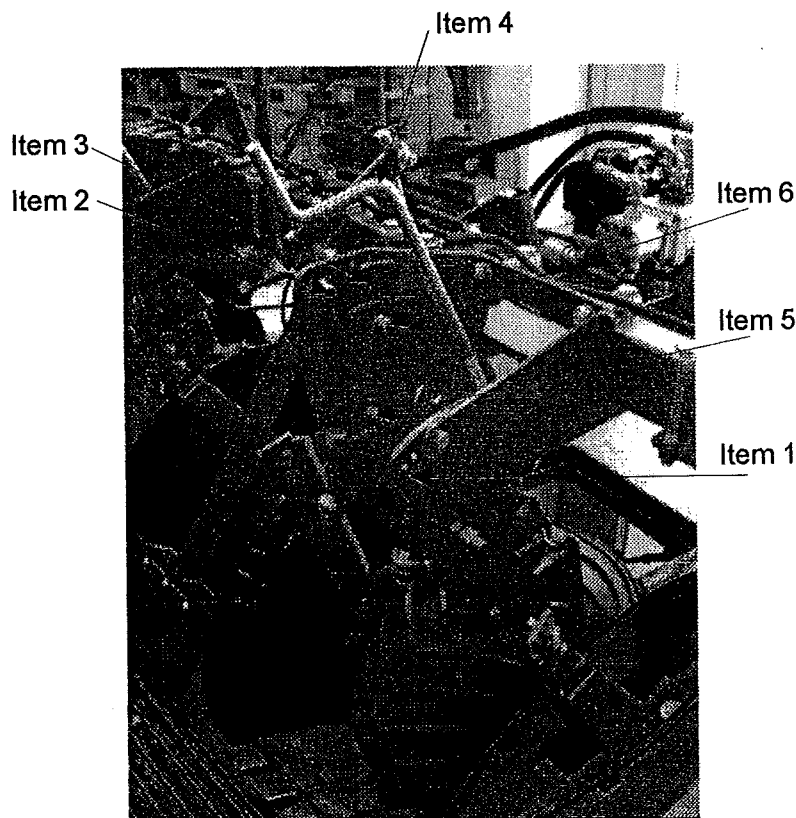

Fig 6.11
The depth wheels have a torsion spring mounted in their pivot to provide downward pressure. This spring can be adjusted to increase or decrease the amount of pressure on the depth wheel. The spring retention bracket is mounted onto the depth wheel frame and has a number of positions. By removing the mounting bolts in the spring retention bracket, and locating the bracket in a forward, or rearward position, spring pressure can be altered (fig 6.11 item 1).
The share depth is automatically controlled by proximity sensors situated adjacent to each depth wheel (Fig 6.11 item 2), these are activated by trigger plates attached to the depth wheel mounting frames (Fig 6.11 item 3). Each depth wheel is adjusted and controlled independently of the other.
The depth is adjusted by two means, a fine adjustment by turning the handle mounted on the frame of the depth wheel (Fig 6.11 item 4), and a coarse adjustment which is achieved by moving the trigger plate (Fig 6.11 item 1).
Turning the handle clockwise decreases the digging depth, whilst turning the handle anti-clockwise increases the digging depth (fig 6.11 item 4).
To adjust the trigger plate, slacken the trigger plate pivot screw (Fig 6.11 item 5), and remove the trigger plate retaining screw (Fig 6.11 item 6); move the trigger plate to the required new setting and refit the retaining screw. Tighten both screws. Moving the trigger plate forwards increases digging depth, while moving rearwards, lessens digging depth.